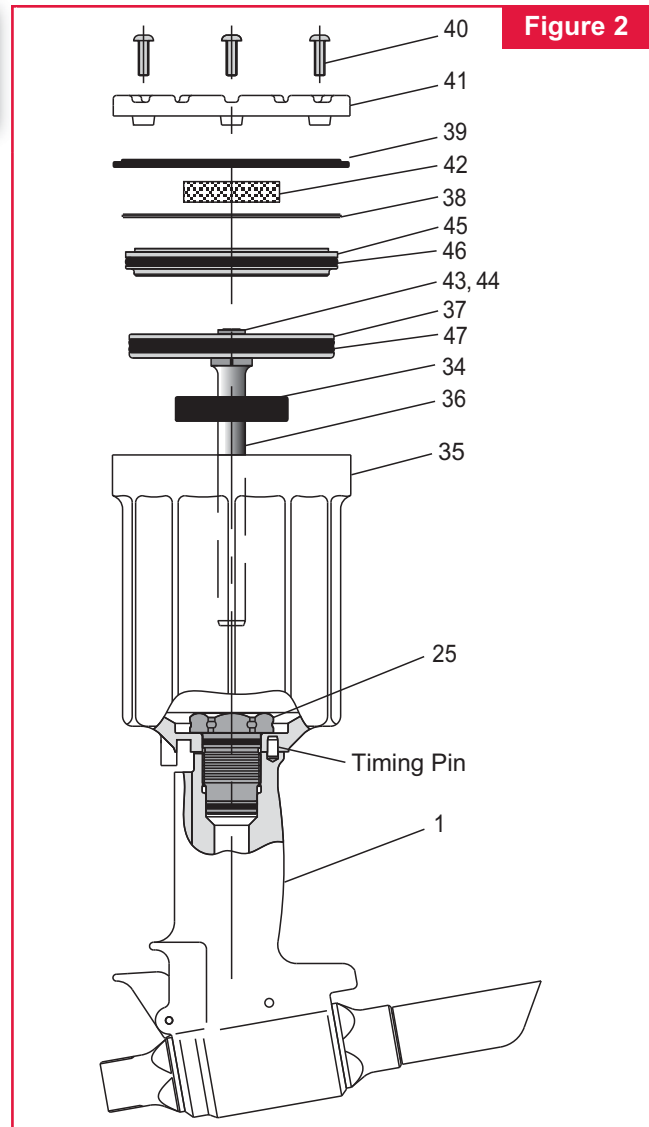

Figure 2
For component identification and Parts list refer to Figures 2, 14, & 15.
5. Remove Throttle Arm Pivot Screw (48) and Lever Guard (73), lift out Throttle Arm (53), and disconnect ball end of Cable Assembly (2) from throttle arm.
6. Hold tool in vise with bottom up. (Fig. 2) Remove Button Head Screws (40) with 1/8 hex key. Remove End Cap (41) and Gasket (39). Remove Muffler (42) from end cap. Remove Spring (49) from Throttle Valve (Fig.14).
7. Tap Cylinder Head (45) down with soft mallet (to take pressure off ring), and remove Retaining Ring (38) (Fig.2).
8. Screw Button Head Screws (40) back into Cylinder Head. Carefully pry on screws to remove head. Remove O-ring (46).
9. Remove air piston from cylinder by pulling on Lock Nut (43) with vise-grips. Remove Piston Quad Ring (47).
(Refer to Figures 2 & 9)
13. Push Bumper (34) firmly over gland. **NOTE: The side of the bumper with two slots must face toward the bottom of the tool.**
14. Install Quad Ring (47) onto Air Piston (37).
15. Lubricate piston rod. Press assembled air piston/rod into cylinder just enough to allow installation of cylinder head (45).
16. Assemble O-Ring (46) onto Cylinder Head (45) and then push Cylinder Head squarely into cylinder taking care not to damage O-ring (46). Install Retaining Ring (38). *(Align screw holes with muffler end cap)*
17. Position Muffler (42) in center of cylinder head. Position Gasket (39) on cylinder. (Refer to Fig 2 & 9) **Note direction of Lip**
18. Carefully position Bottom Plate (41) on cylinder. **NOTE: Make sure that the muffler is properly positioned in recess of Bottom Plate (41) (Fig 2 & 14).**
19. Secure the bottom plate with the three Button Head Screws (40) using 1/8 hex key (Fig. 2).